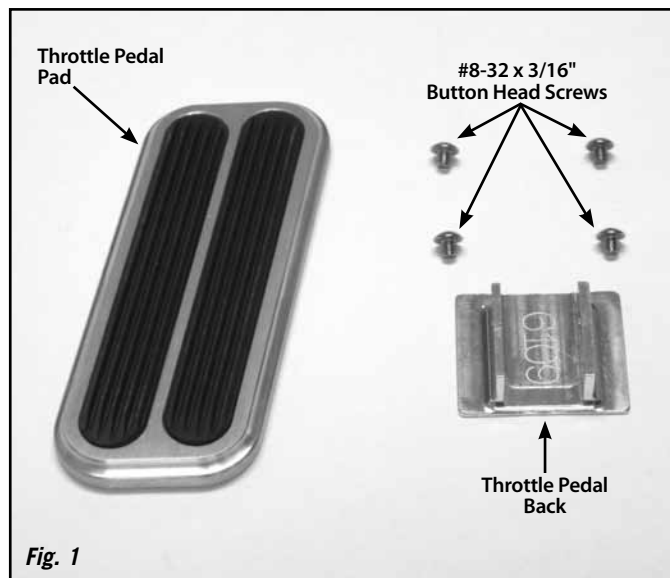
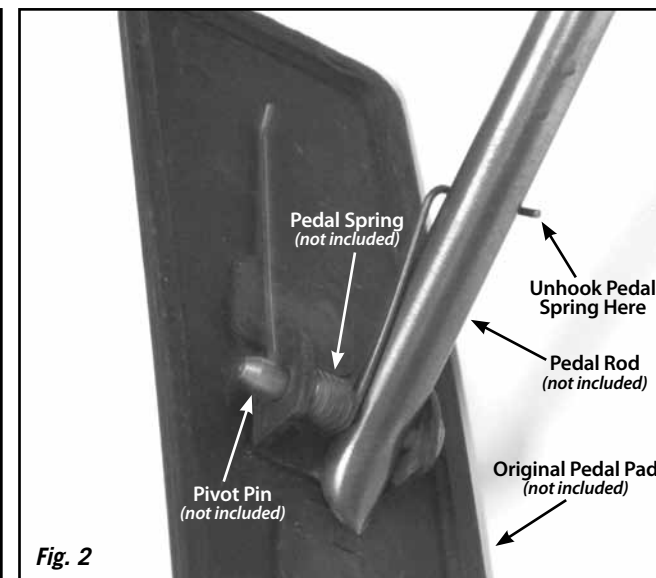

Fig. 1
Fig. 2
Refer to Fig. 1 and Fig. 2 for the component names.
Step 1: Unhook the pedal spring from the pedal rod to relieve the tension. **Fig. 2** Remove the original throttle pedal pad from the pedal rod by pulling the pivot pin out of the original pedal pad.